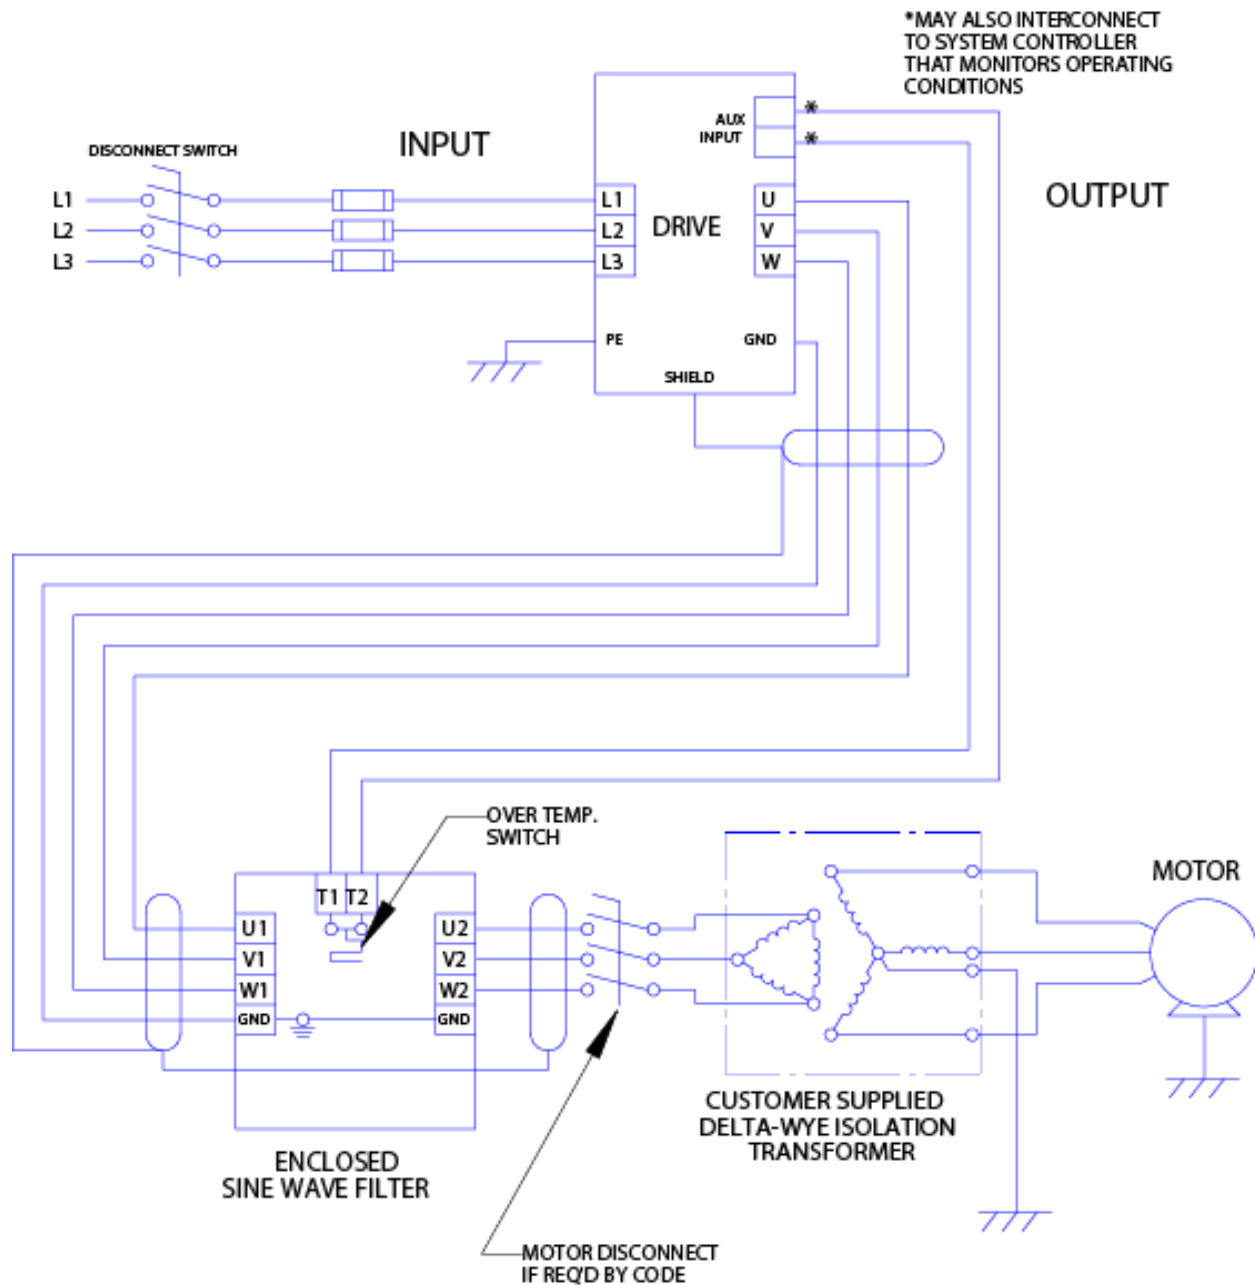

Figure 6-3: Isolation Transformer
- For isolation transformer connections between the filter, motor and the drive is shown in Figure 6-3 (p18).